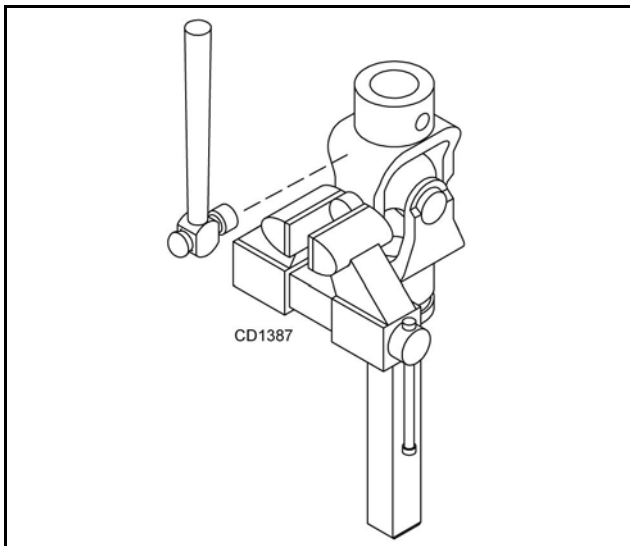

Figure 21. Remove Bearing Cups
3. Clamp cup in vise as shown in Figure 21 and tap on yoke to completely remove cup from yoke. Repeat Step 2 & Step 3 for opposite cup.